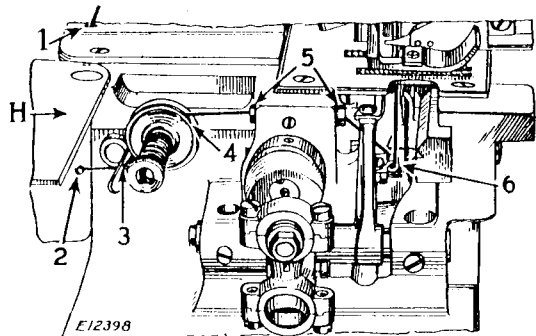
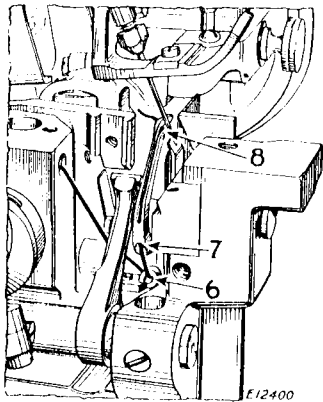

Fig. 7
Fig. 8
Pass the thread from the unwinder down through the hole (1, Fig.7) in the frame top cover, and from back to front through the
hole (2) in the cloth plate extension. Swing cloth plate (H) to the left, then pass the thread up through the hole in the thread eyelet (3), over between the tension discs (4), through the tube (5), down and from right to left through the thread guide (6, Figs. 7 and 8), up and through the hole (7, Fig.8) in the heel of the left hand looper, and from front to back through the eye (8) of the left hand looper.
NOTE. Machine 81-65 is threaded as instructed above with the exception of the thread guide (6, Fig. 8) through which the thread is passed from back to front (toward the operator), up and from back to front through the heel of the looper, and from front to back through the eye of the looper.